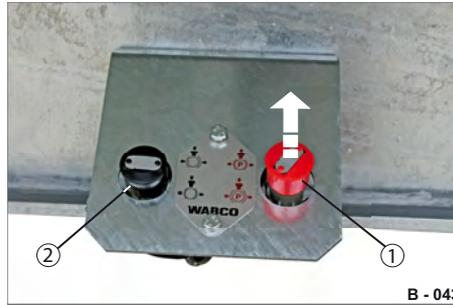

Fig. 46 Parking brake, pneumatic
- ▶ Engage the spring-loaded parking brake (Fig. 46/1).